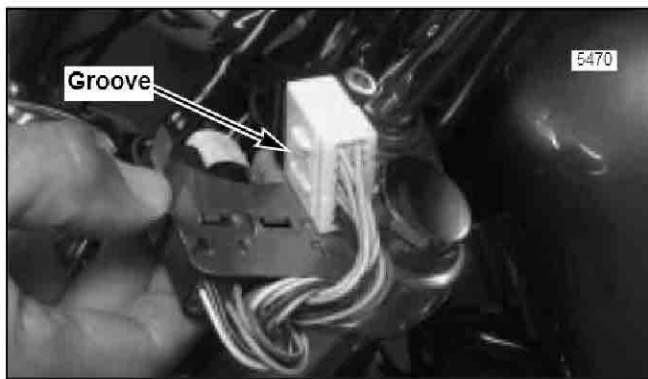

Figure 3. Removing 12-Place Connector
6. See Figure 3. Slide 12-place connector down to disengage attachment groove.
See Figure 3. Connect and install 12-place connector [20A & B] on electrical panel